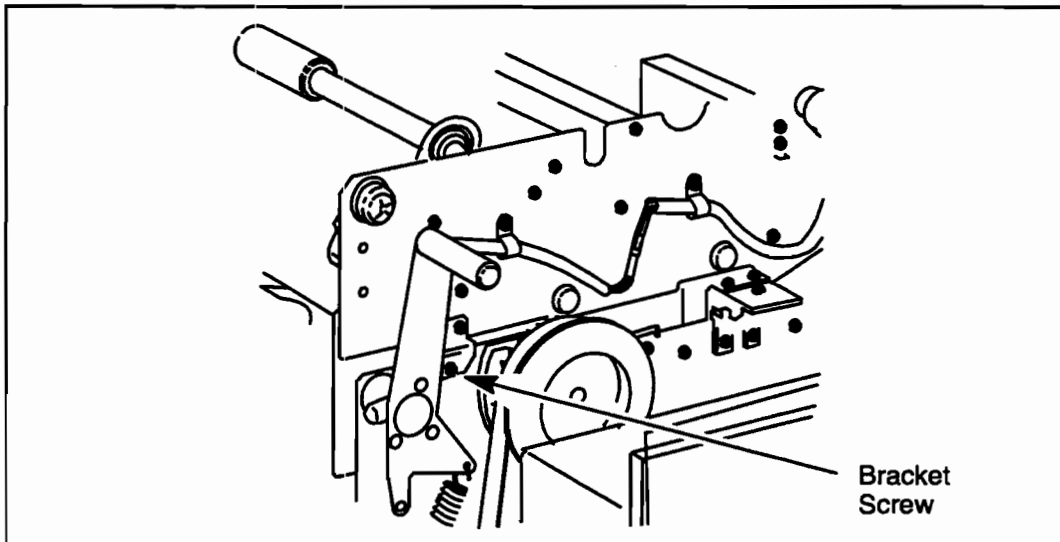

Figure 3-3. S-shaped Bracket (Right Side)
5. Locate the S-shaped brackets at either end of the upper frame, which secure the upper frame during shipping. See Figure 3-3.